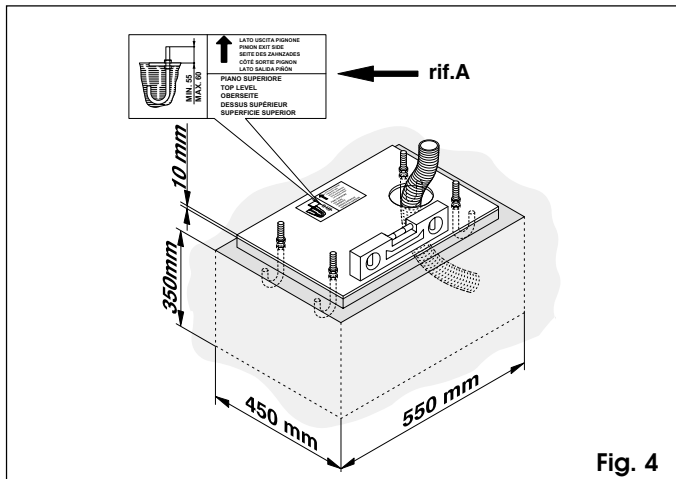
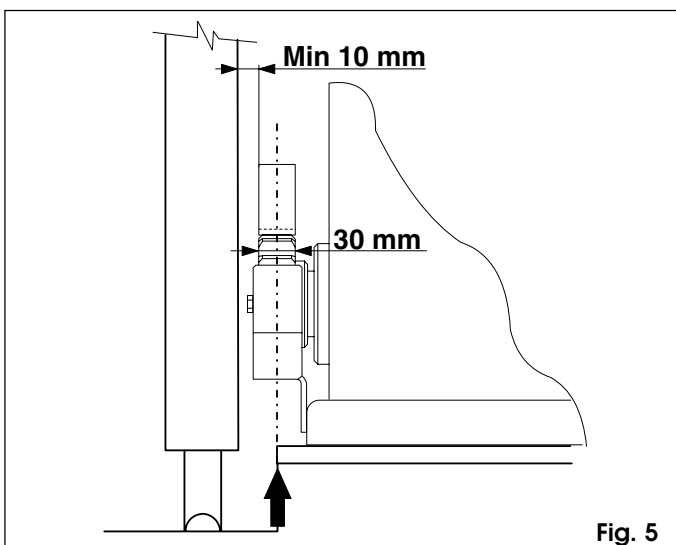

Fig. 4
Fig. 5
- 1) The base plate must be positioned as shown in Fig. 4. For the positioning distances refer to fig. 5.
- 2) Assemble the foundation plate as shown in A, Fig. 4.
- 3) Prepare a foundation plinth as shown in Fig. 4 and install the base plate providing one or more conduits for electrical cables. Use a level to check that the plate is perfectly horizontal and wait for the cement to set.
- 3) Adjust the height of the feet while keeping the gear motor raised from the plate by 1 cm and maintaining the distance from the gate shown in figs. 5 and 9.
Important: To mount the rack on the leaf it is necessary to construct special supports specifically for the type of gate. Fig. 10 shows an example of "L" support. For positioning the supports refer to figs. 5 and 9.